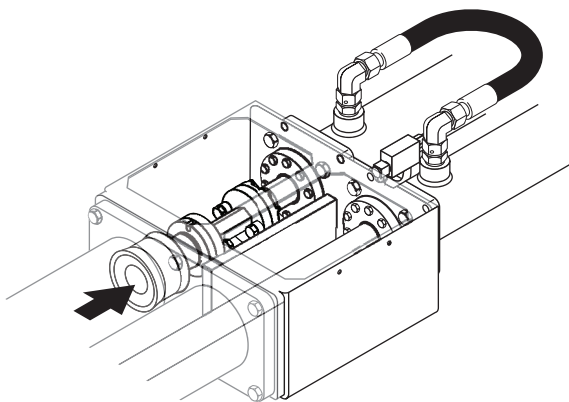

Figure 20
4. Retract the left-hand side differential rod almost all the way into the waterbox (Figure 20). Leave about 1.5 inches of travel, which will allow you to remove the spacer coupling (dogbone). When in position, shut-off the engine.